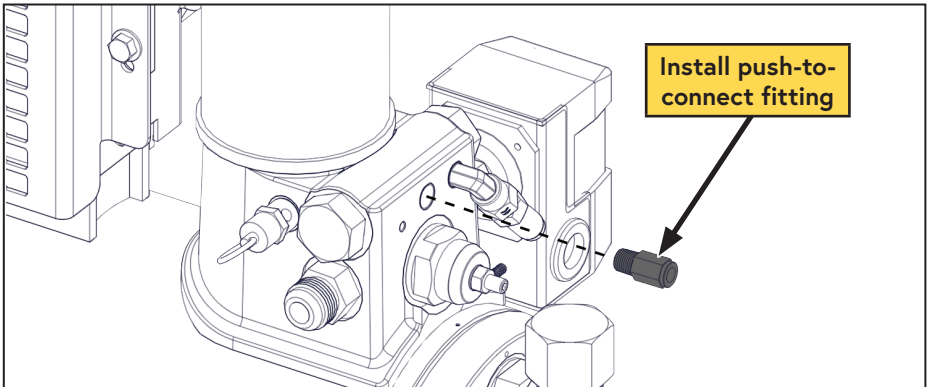

Figure 32 — Install push-to-connect fitting
- Apply Loctite 567 (thread sealing) compound to the 1/4 in push-to-connect fitting and install it into the threaded hole which previously held the blowdown muffler (Figure 32).